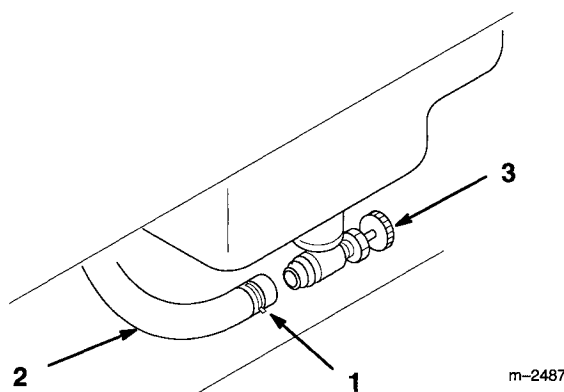

Figure 29
3. Loosen the hose clamp and slide it up the fuel line away from the fuel shut-off valve (Fig. 29).
4. Pull the fuel line off fuel shut-off valve (Fig. 29). Open fuel shut-off valve and allow gasoline to drain into a gas can or drain pan.
5. Install the fuel line onto the fuel shut-off valve. Slide the hose clamp close to the fuel shut-off valve to secure the fuel line (Fig. 29).